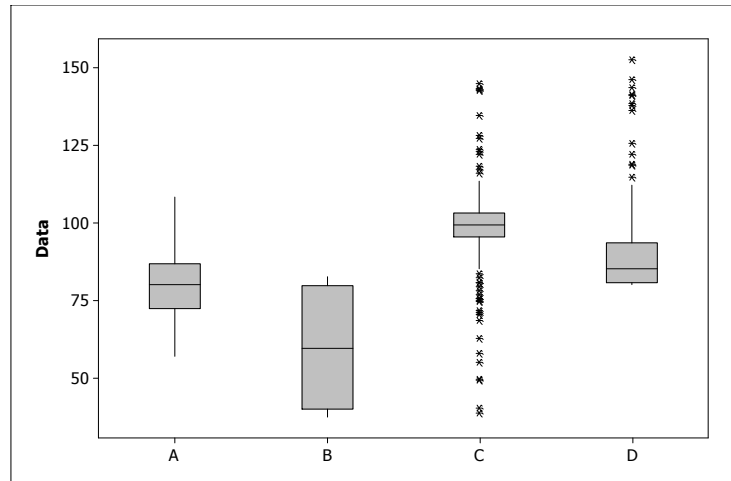

FIGURE 3.1. Boxplots of samples from four populations.
3. Each boxplot in Figure 3.1 was constructed from a random sample of size $n = 200$.